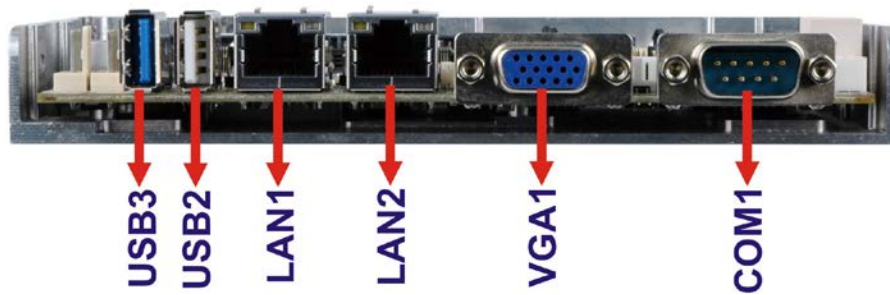

Figure 3-24: External Peripheral Interface Connector
Figure 3-24 shows the WAFER-BT external peripheral interface connector (EPIC) panel. The EPIC panel consists of the following:
- CN Location:** See Figure 3-24
CN Location: See **Figure 3-24**
- CN Location:** See **Figure 3-24**